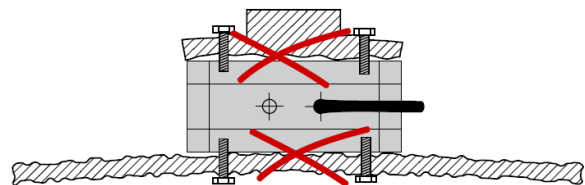

fig. 2: insufficient surface flatness of mounting surfaces
- Connecting surfaces should be clean. Uneven or impure surfaces can lead to tensions and subsequently to less precise motion (fig. 2).